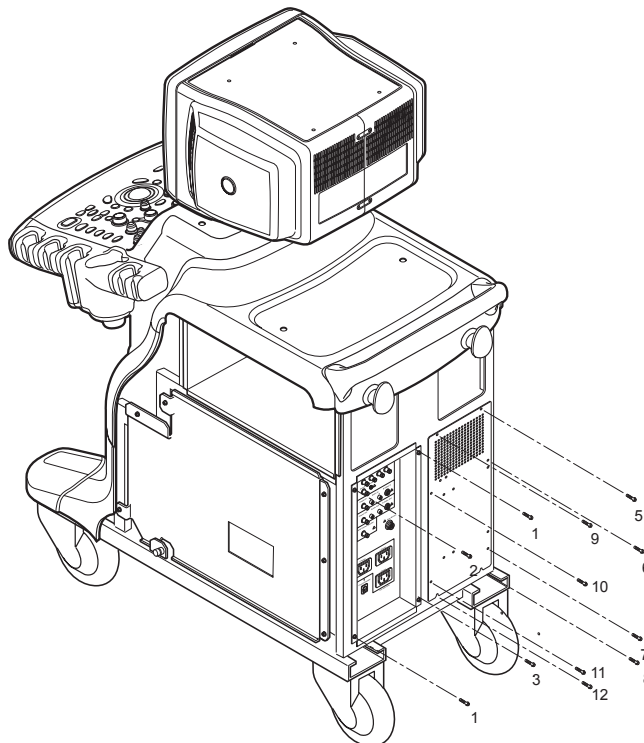

Figure 8-101 Unscrew 8 screws to remove EMI brkt
- 4.) Unscrew eight (8) screws (5-12) to remove the EMI rear Bracket. Refer to Figure 8-101 on page 8-54 .